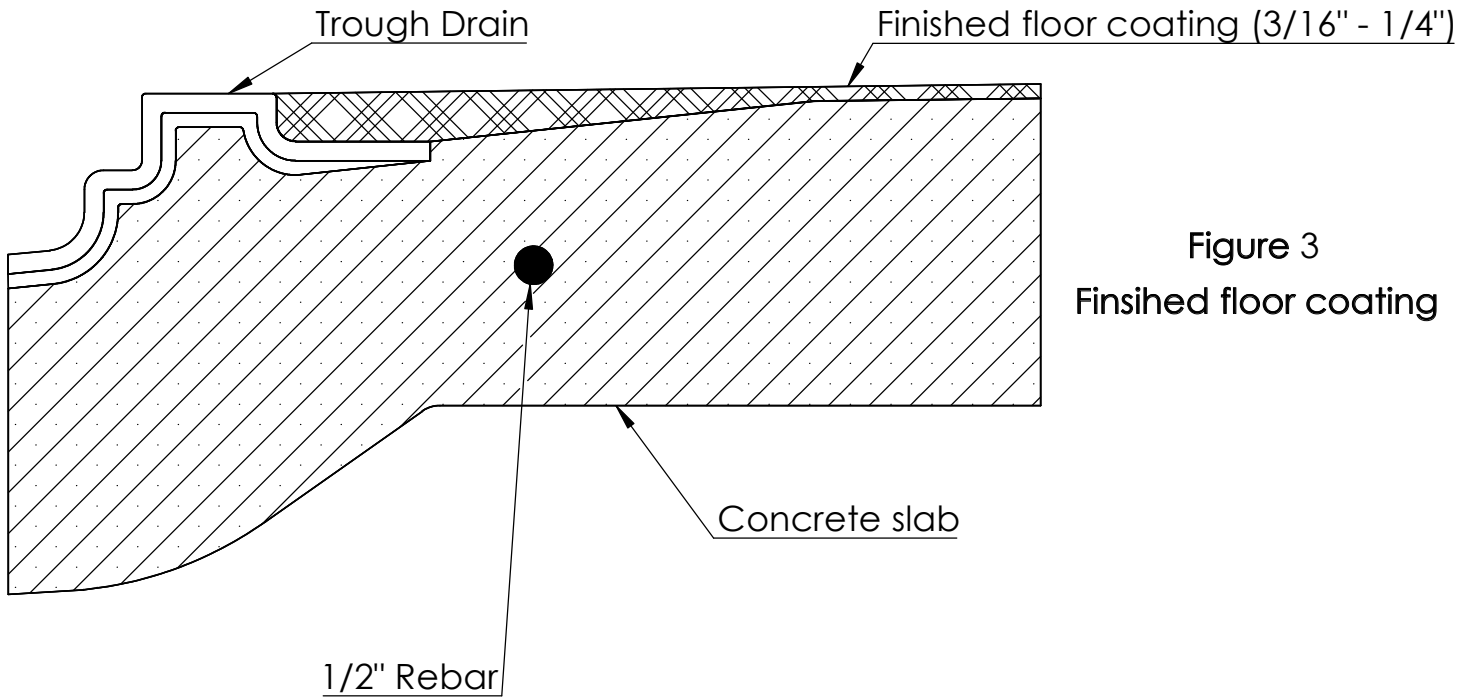

Figure 3
- e. Use the supplied concrete finishing tool for finished floor coatings and tile only applications as shown in figures 3 and 4. (Optional: Cut along line and discard portion of tool not needed for your application.)